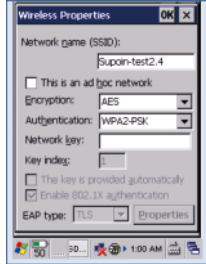

Figure4-6
- 3) Input password as figure 4-6, click icon 'OK'.